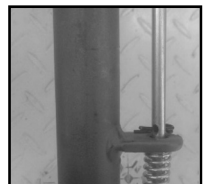

Fig.5
4. Put the R pin back on the locking rod (4). (Fig. 5)